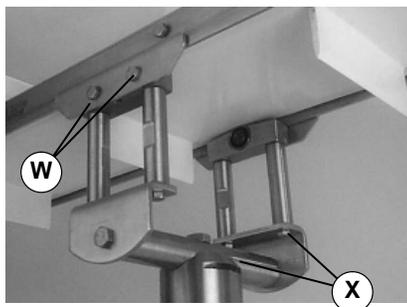

Figure 25
4. Attach clamp plates on each side of conveyor (Figure 25). Tightly secure screws (W & X) with 92 in-lb (10.4 Nm) torque. Make sure belt is free to move.